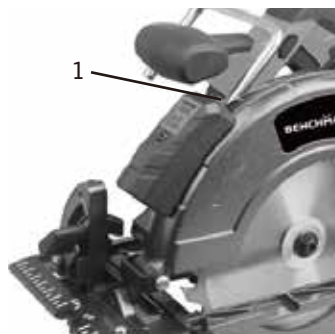

FIG.18
To turn the laser ON, press the laser switch (1) once (Fig. 18). To turn the laser OFF, press the laser switch again.